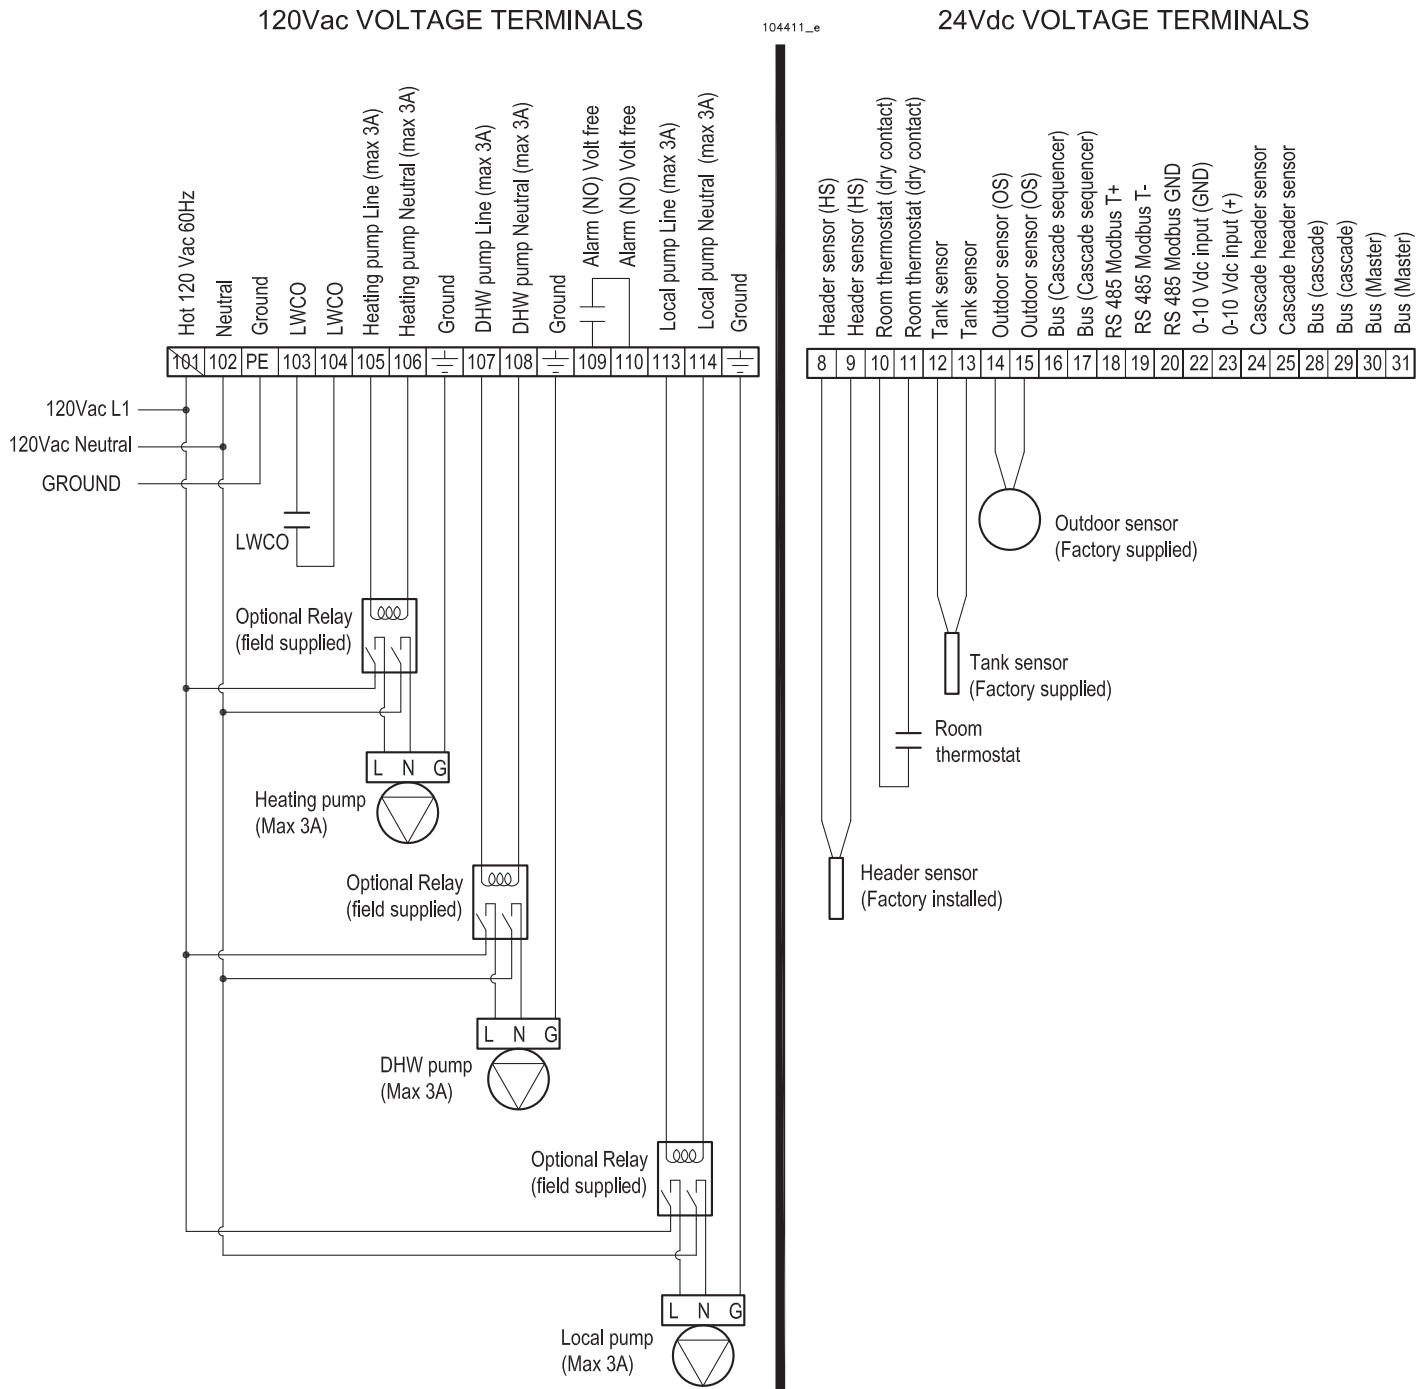

Figure 9-4 Electrical connections
- 3.- Connect the cable leads to the "10" and "11" terminals as shown in Figure 9-4.
upper half of the second floor. Do not install the sensor above doors, windows or ventilation outlets nor directly under balconies or gutter pipes. Do not shield the outdoor temperature sensor. Do not install the sensor on walls without overhangs, or not protected from rain. Connect the outdoor temperature sensor to the appliance to terminals "14" and "15" (See Figure 9-4):
On appliances model 399, 500, 750 and 1000 it is factory supplied the 885IF board that permit installer to drive the unit via a Vcc input (199 model can be equipped on demand). To do this, you have to connect the Vcc supply between terminals 22 and 23 (see Figures 9-4). Also, the CH mode (parameter 2003 as per Section 15.13) must be set to 4 value.
- 2.- The indirect water heater pump (DHW pump) must be connected to terminals “107” and “108” (See Figure 9-4); a field supplied pump relay must be installed if the pump current draw is greater than 3 amps as indicated in Figure 9-4;
- 3.- The indirect water heater temperature sensor (Tank sensor) must be connected to terminals “12” and “13” (See Figure 9-4).